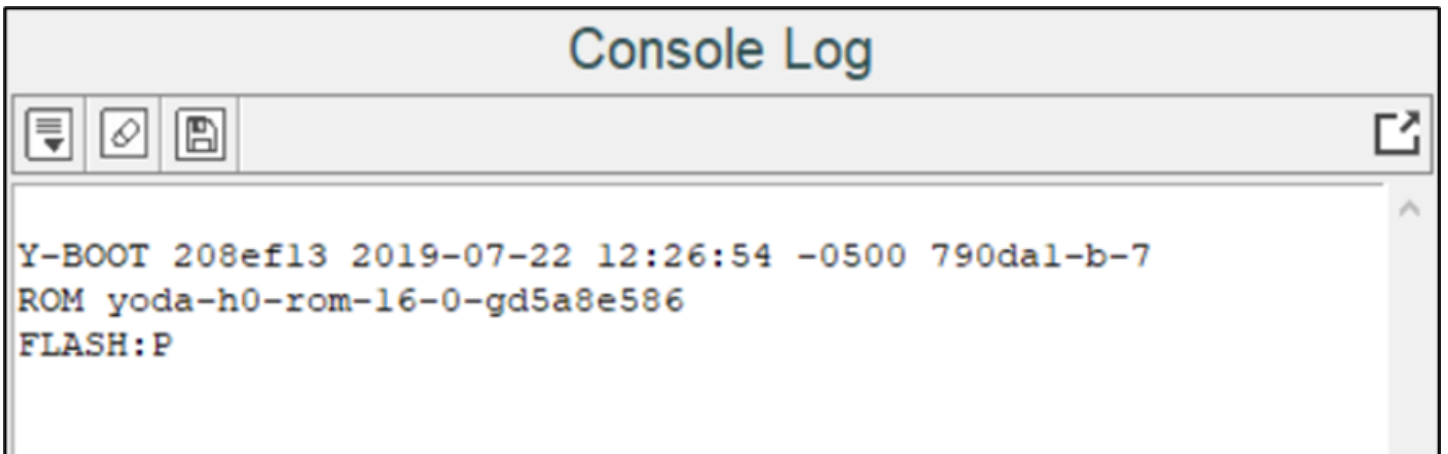

Figure 11: Download Tool Console
2. Console window at the bottom for monitoring Talaria TWO module console output as shown in Figure 11